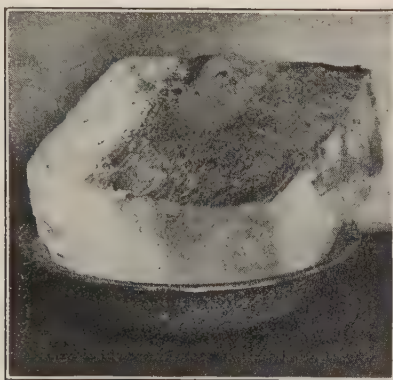

FIGURE 182. — SALT MELTING ICE.
**126. Freezing Mixtures.** — The salt and ice in an ice cream freezer give another example of the effect of a dissolved substance (salt) on the freezing point of a solvent (water). When salt comes in contact with ice, some of the salt dissolves in the thin film of water that immediately forms on the ice (Figure 182.) Heat is required to dissolve the salt (§ 129), and is absorbed from the surroundings. As more ice melts and more salt dissolves, additional heat is needed and the solution